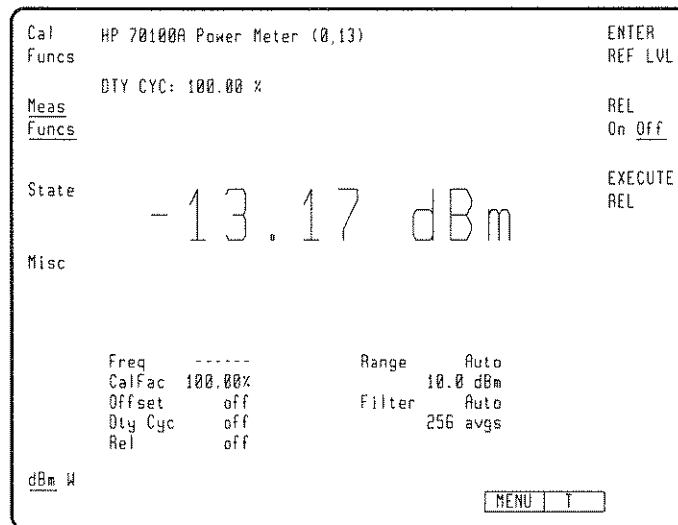

Figure 6-14. Rel Menu
rel accesses another menu, refer to Figure 6-14, that allows entry of a reference value for a relative measurement. Relative mode permits any measurement result to be compared in dB or percent (%) to the reference value. Allowable references range from -199 dBm to +99 dBm. After preset, relative mode is off and the reference is set to 1 mW.
1. Press **rel**. The menu will be as shown in Figure 6-14.